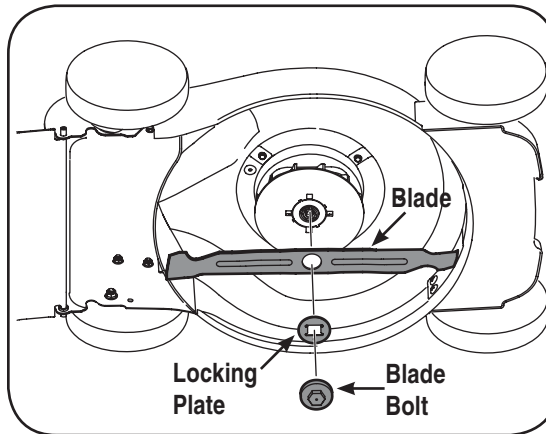

Figure 5-3
1. To remove the old rear flap, lift rear door, and press flap in on either side to remove from hole. See Figure 5-3.
6. Place the cutting blade, locking plate, and blade bolt on the motor shaft and thread the blade bolt in finger tight. Refer to Figure 5-3.